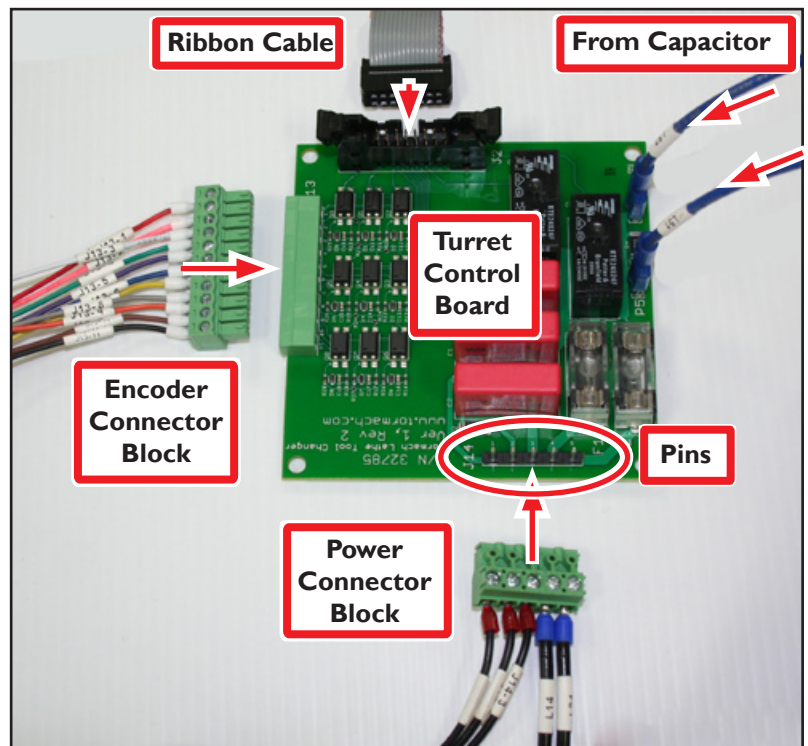

Figure 19
25. Plug the Power Connector Block onto the Turret Control Board as shown in **Figure 19**.
27. Connect one end of the Ribbon Cable (included) to Turret Control Board as shown in **Figure 19**.